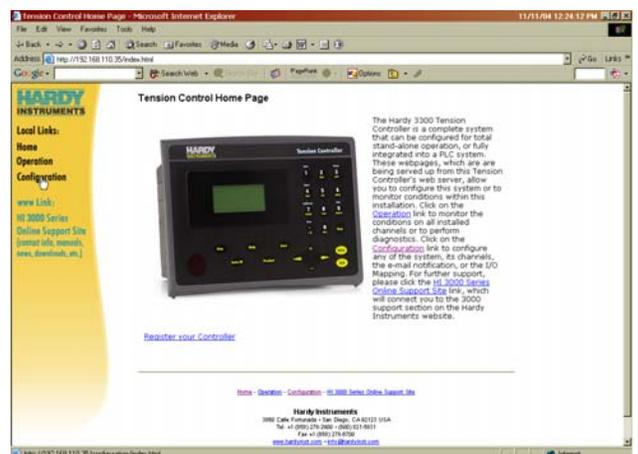
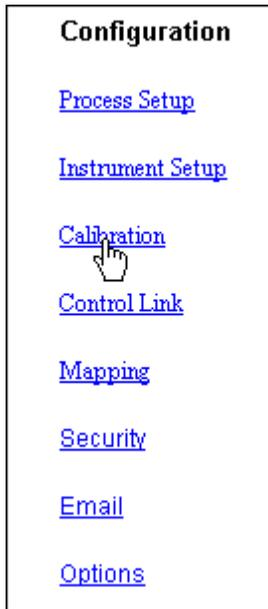

FIG. 2-28 HOME PAGE/SELECTING CONFIGURATION
FIG. 2-29 CONFIGURATION MENU/SELECTING CALIBRATION
- Step 1. From the Home Page Click on Configuration. (See Fig. 2-28) The Configuration Page appears. (See Fig. 2-29)